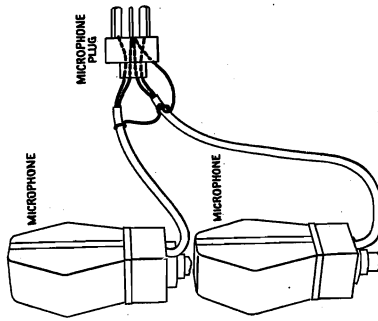

Figure 5—Two microphones wired to one plug
- (c) Connect the two microphones in series to the microphone plug as shown in Figure 5.